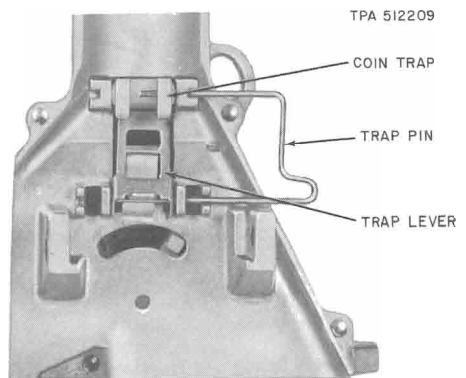

Fig. 32—Placing Coin Trap in Hopper¶
- (2) Insert coin trap in hopper and engage pin in trap (Fig. 32).